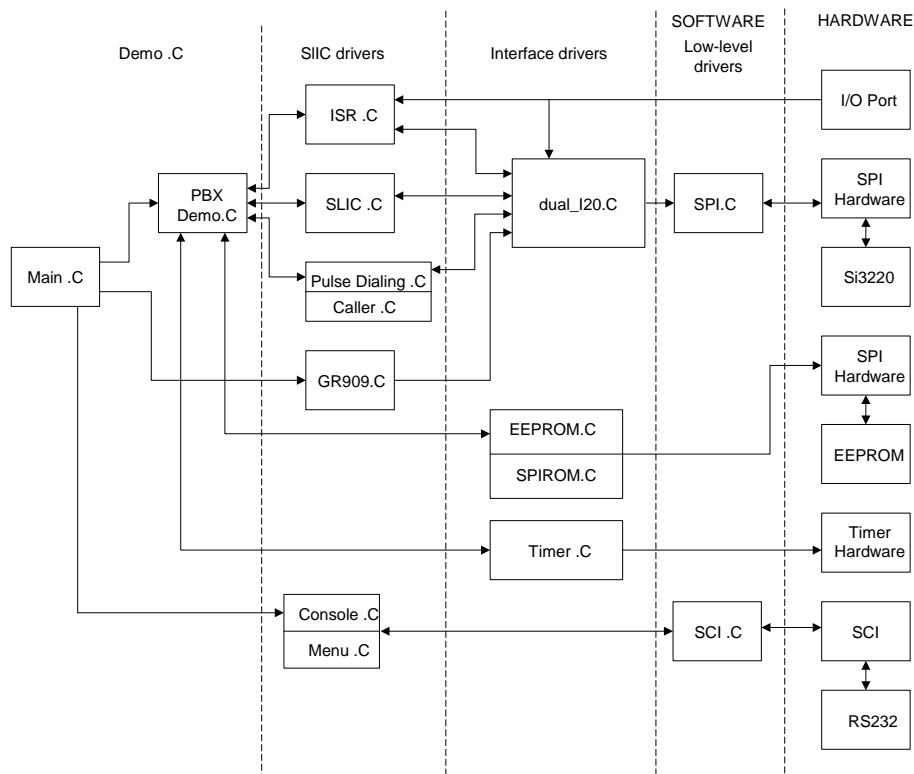

Figure 3. Software Block Diagram
Figure 3 gives a high-level block diagram of the layers in the software. Spi.c (associated header file: spi.h) is a low-level driver that communicates to the ProSLIC through the SPI port. Dual_i2o.c (associated header file: dual_io.h) is one layer up that sends the correct order of bytes for communication. Gr909.c, ISR.c, and SLIC.c are high-level drivers that demonstrate how to perform various common telephony tasks. (The associated header files are: SLIC.h, registers.h, SRAM.h, gr909.h.) SLIC.c performs all basic necessary telephony functions. Table 1 explains the functions contained in SLIC.c. These are the most common necessary
- Added Figure 3, “Software Block Diagram”.